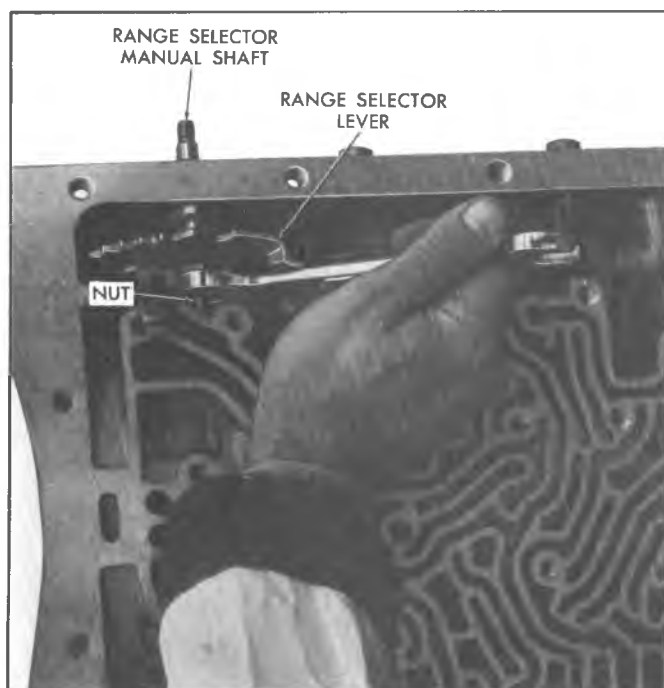

Fig. 19N--Loosening Nut Holding Range Selector Lever to Manual Shaft
11. Loosen nut holding range selector inner lever to manual shaft (fig. 19N). Pull on manual shaft and remove nut. Remove manual shaft.